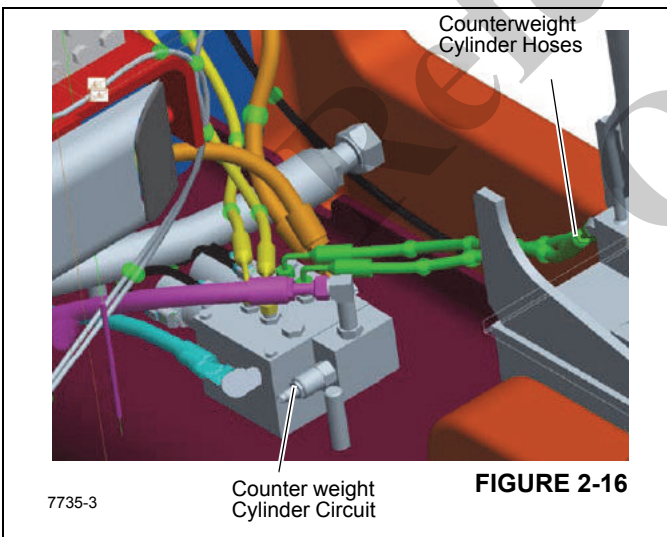

FIGURE 2-16
- 1. The Counterweight Cylinder circuit has a single reducing valve in the counterweight removal manifold with a setting of 79 bar (1150 PSI) as shown in (Figure 2-16).